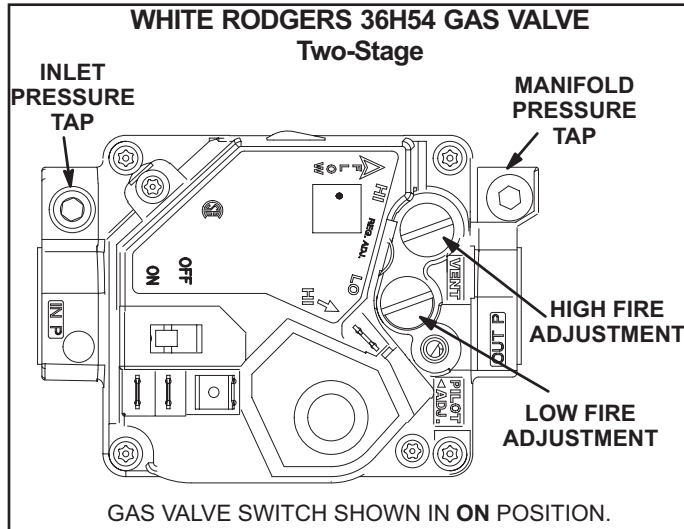

FIGURE 33
Gas Valve Operation for Honeywell VR8205Q / VR8305Q and White Rodgers 36H54 (FIGURE 33)
- 5 - Turn gas valve switch to **OFF**. See FIGURE 33.
- 6 - Wait five (5) minutes to clear out any gas. If you then smell gas, **STOP!** Immediately call your gas supplier from a neighbor's phone. Follow the gas supplier's instructions. If you do not smell gas, go to the next step.
- 7 - Turn gas valve switch to **ON**. See FIGURE 33.